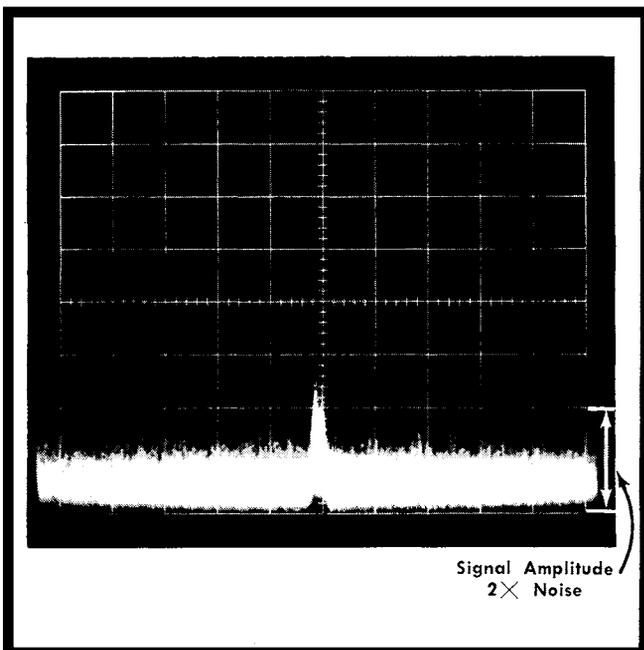

Fig. 5-7. Signal to noise ratio for measuring sensitivity.
f. Calibrate the signal generator output then adjust the variable output attenuator control on the signal generator, until the signal amplitude is two divisions (twice the noise amplitude). See Fig. 5-7.